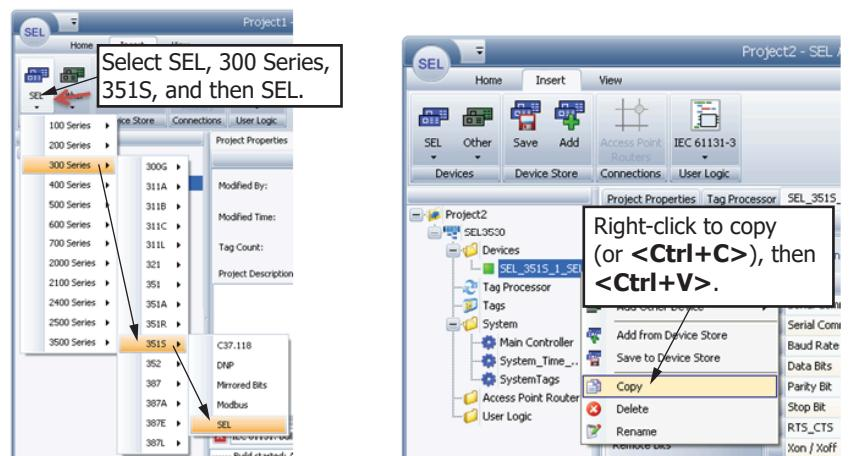

Figure 4.1 Configure Four SEL Access Points
Step 4. Right-click on the inserted relay, select **Copy**, and then paste the copy on Devices. Paste three copies for a total of four SEL-351S IEDs for this example. Rename the copies as shown in *Figure 4.1*.